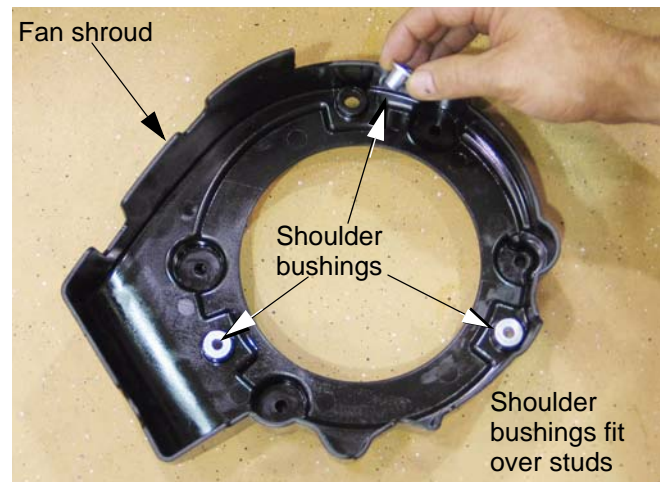

Figure 7.23
3. Lift the fan shroud off of the three studs that locate it. See Figure 7.23.
2. Lift the fan shroud off of the three studs that locate it. See Figure 7.23.